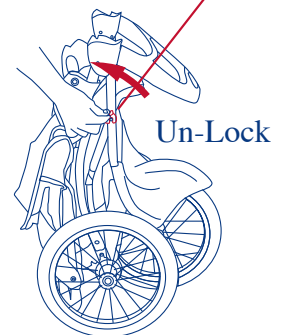

Figure 22.
- Stand the stroller on the ground with all three wheels touching the ground. Release the folding latch, which is located on the right side. See figure 22.